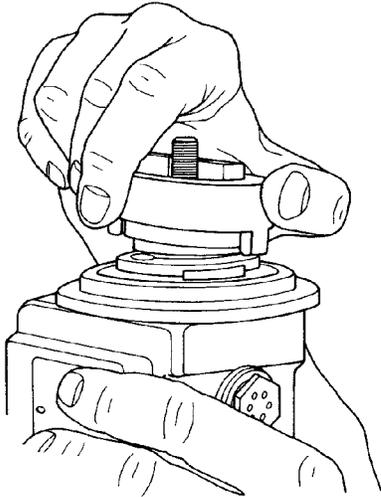

Figure 6.1
- B. Grasp the shell of the impulse coupling assembly and gently pull the assembly outward to clear the latching ears of the impulse hub assembly. (See Figure 6.1.)